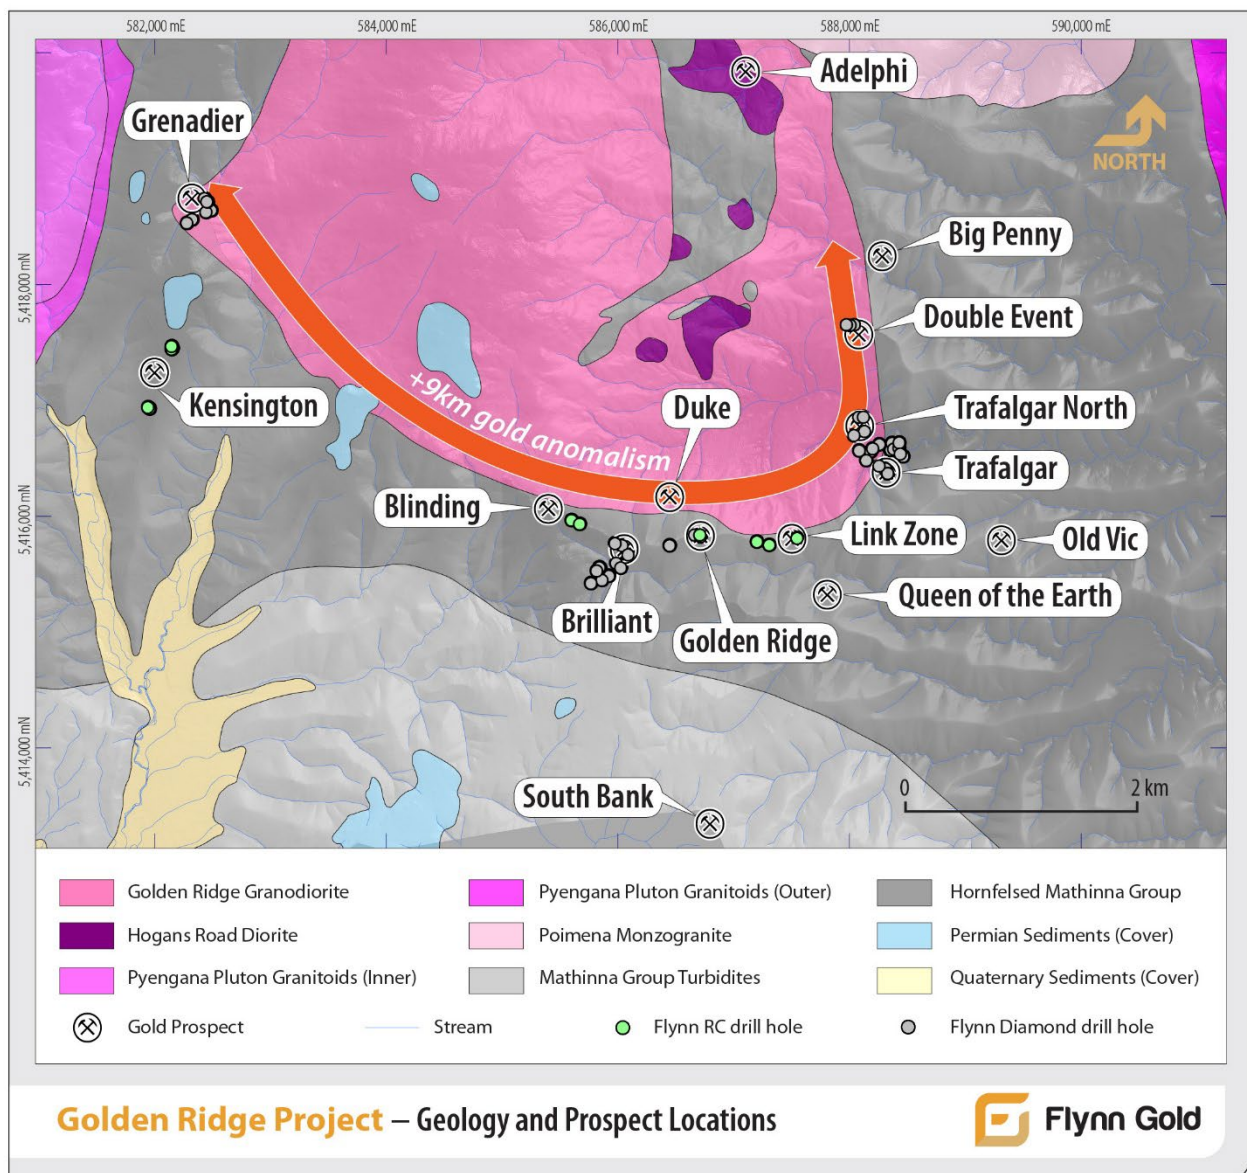

Figure 3 – Golden Ridge Project – Geology and Prospect Locations.
- Drilling to follow-up the results of trenching and historical exploration across the 3km contact zone between the Brilliant and Trafalgar Prospects (Figure 3);
Exploration undertaken by Flynn at the Golden Ridge Project has identified extensive intrusive-related type gold mineralisation (IRGS) extending over a 9km-long zone along the southern contact margin of the Golden Ridge Granodiorite and enclosing metasediments (Figure 3).